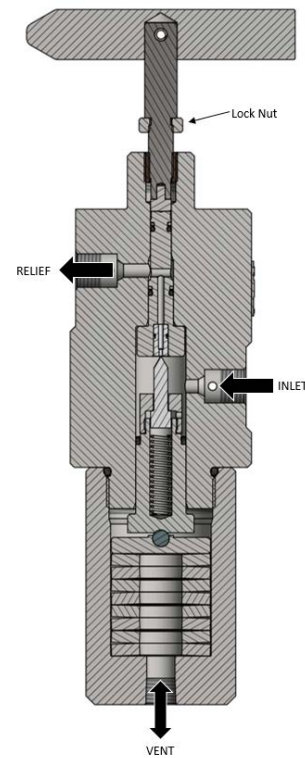

Figure 1 – Cross Section
If panel mounting, loosen the lock nut on the handle assembly, see Figure 1 – *3/8 inch wrench*, and remove the handle. Mount the valve, then replace the handle and tighten the lock nut.
- 3.4 Tighten the lock nut (71002111) on the handle, see Figure 1, to avoid inadvertent changes to the adjustment. - 3/8" Wrench
- 8.2 Loosen the lock nut on the handle assembly, see Figure 1. – *3/8 inch wrench*